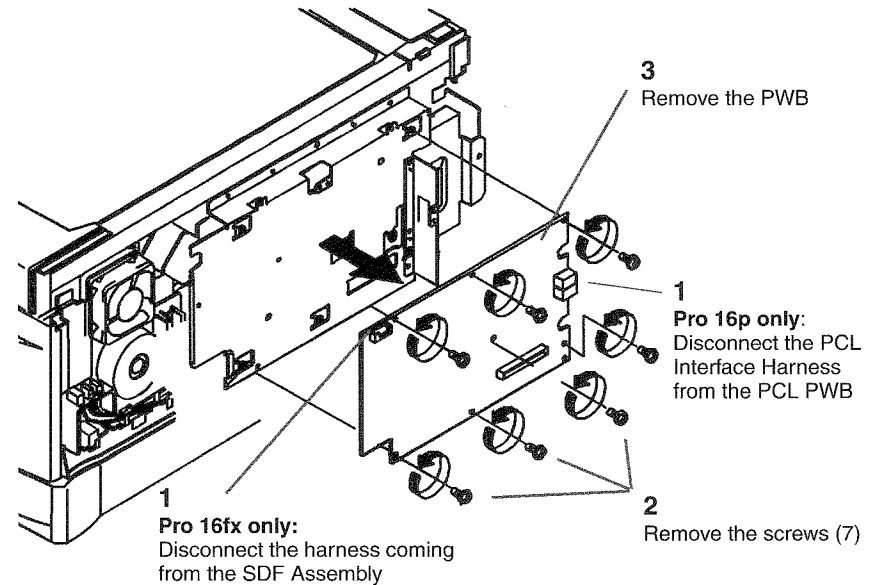

Figure 2 Removing the PWB
3. (Figure 2) :Remove the PWB.